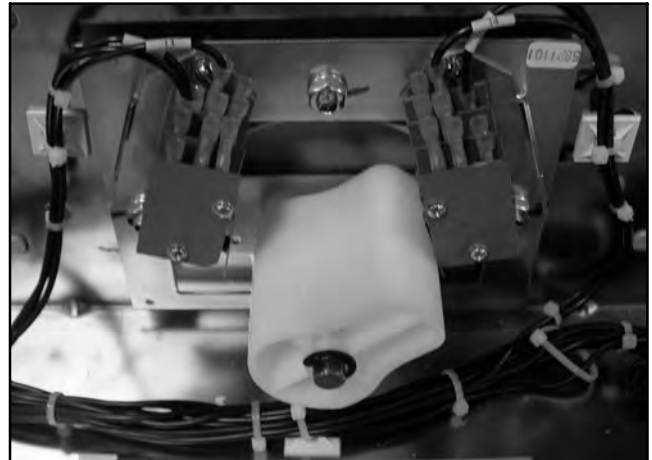

Figure 6-4 Microswitch Fast-On Connectors
6. Disconnect the fast-on connectors. See Figure 6-4.